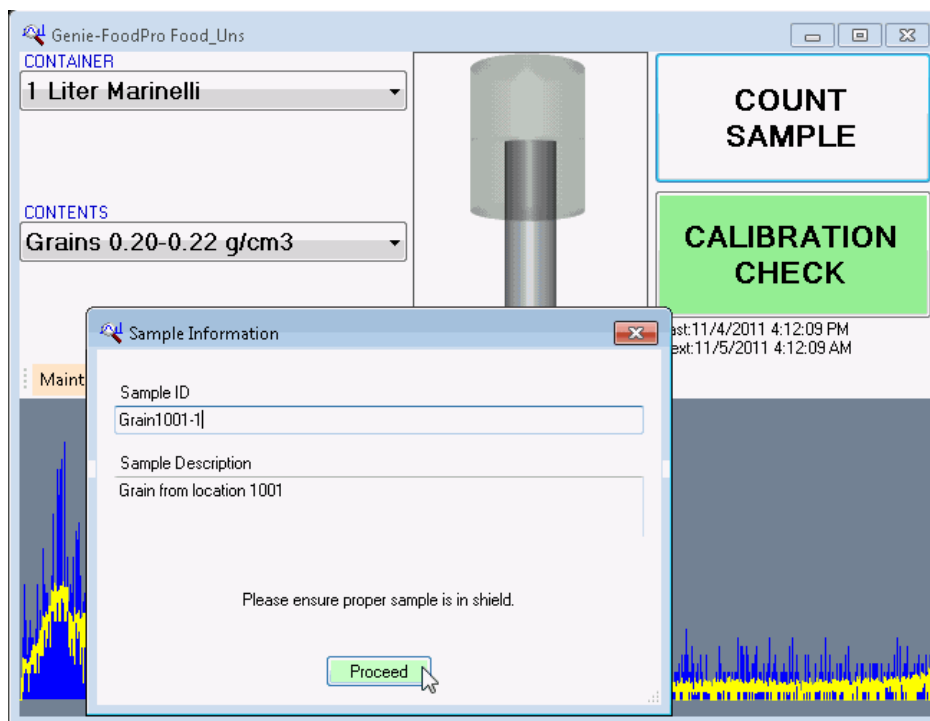

Figure 2: Entering the Sample Information
4. The Sample Information dialog appears as shown in Figure 2.